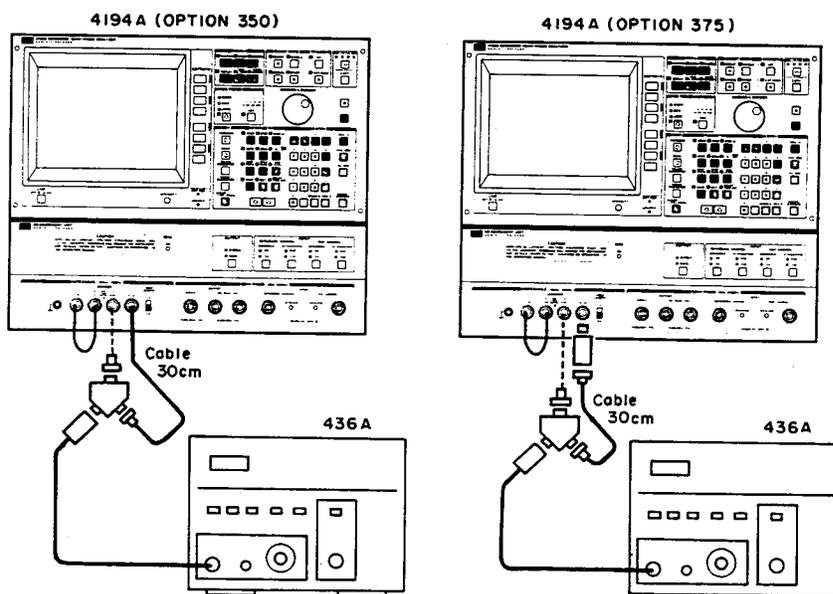

Figure 4-34. Impedance Measurement V Level Monitor Test Setup 2
1. Set up the equipment as shown in Figure 4-34.